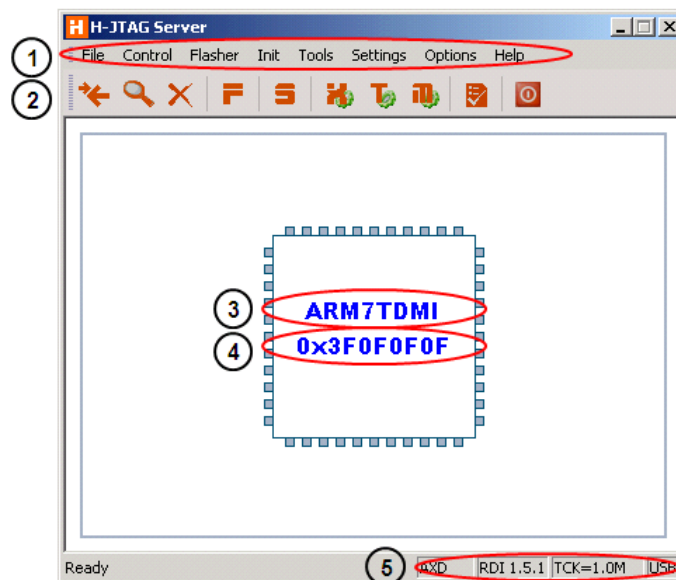

Fig 2-7 Main window of H-Jtag
The main window of H-Jtag is shown in Fig 2-7. In the figure, (1) is the menu, (2) is the toolbar, (3) is the detected ARM core, (4) is the device ID and (5) shows the connected debugger, RDI version and hardware interface.